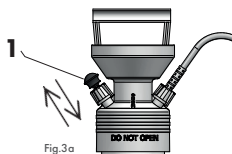

Fig.3a
To de-pressurize the tank (Fig. 1/pos. 6), pull the head of the safety valve (Fig. 3a/pos. 1) and keep it pulled for at least 10 seconds, until pressure has been completely released.
DE Screw in the pump and perform several piston rod movements (Fig. 3c) to make the safety valve (Fig. 3a) open automatically. Remember to keep the connection
RU open tight. If the valve is working properly, the valve stem (Fig. 3a/pos. 1) will go up (the valve will open) accompanied by the sound of escaping air.
Move the unit to its place of operation. When moving the piston rod (Fig. 3c), keep pumping (make approximately 20 full movements), until the safety valve is activated (Fig. 3a/pos. 1). When the safety valve (Fig. 3a/pos. 1) is open, it means that the maximum pressure in the tank has been reached.